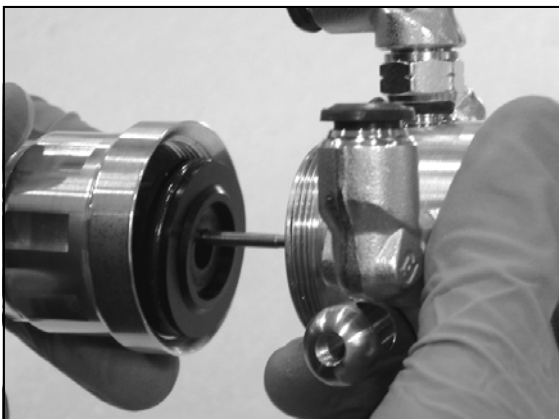

Figure 10
2. Unscrew the trigger housing from the main body by turning counter-clockwise and completely removing it, along with the fluid needle and trigger piston (See Figure 10).